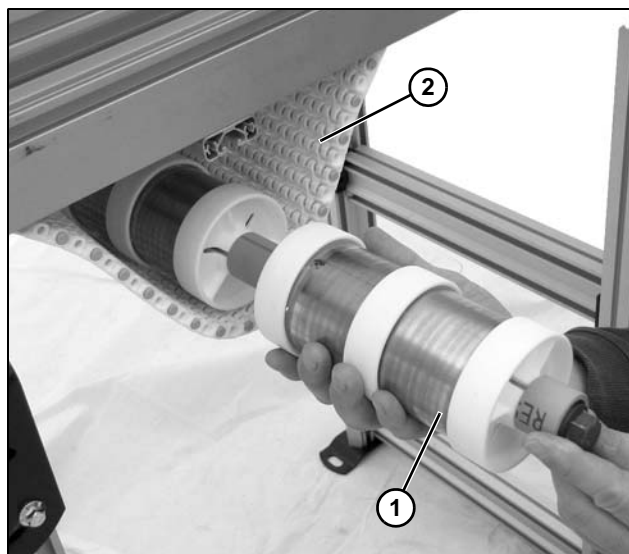

Figure 104
4. Remove weighted pulley assembly (**Figure 104, item 1**) from belt (**Figure 104, item 2**).